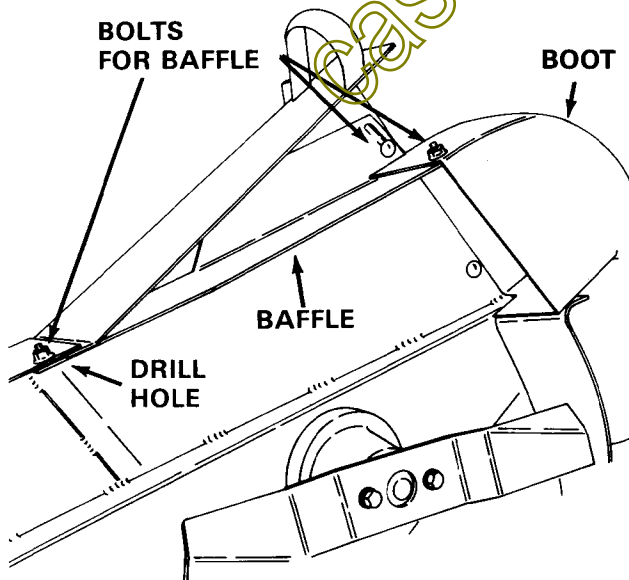

FIGURE 7
3. Attach baffle to boot with one bolt as shown in Figure 7. Leave bolt loose.